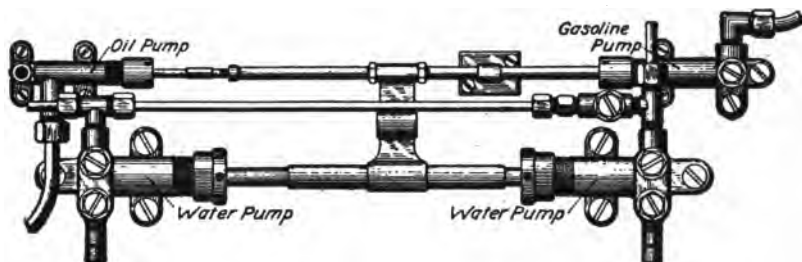
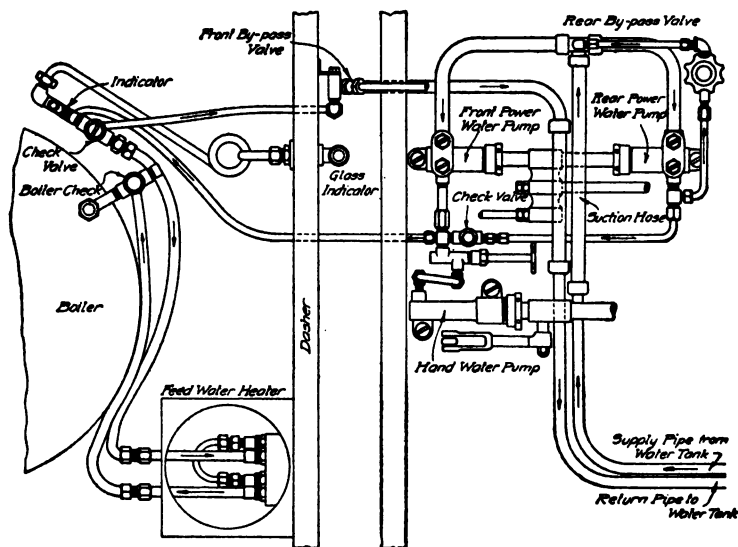

Fig. 46. Power Pumps of Stanley Engine
Fig. 51. Diagram of Stanley Water System
**Stanley Fuel, Water, and Steam Systems. Fuel System.** On the Stanley cars the main fuel tank is carried under atmospheric pressure and the fuel is drawn from the tank by the power-driven pump, Fig. 46. In series with the power fuel pump is a hand pump for use
*Water and Steam System.* From the main water tank the water is drawn by two opposite *power-driven pumps*, Fig. 46, and follows the course shown in Fig. 51. A *hand pump* is also provided for use
Driven by the same mechanism which drives the Stanley fuel and water pumps, is the *oil pump*, Figs. 46 and 53. From the oil tank the pump forces the oil through the sight feed on the dash, from which it is led into the steam line to the engine.